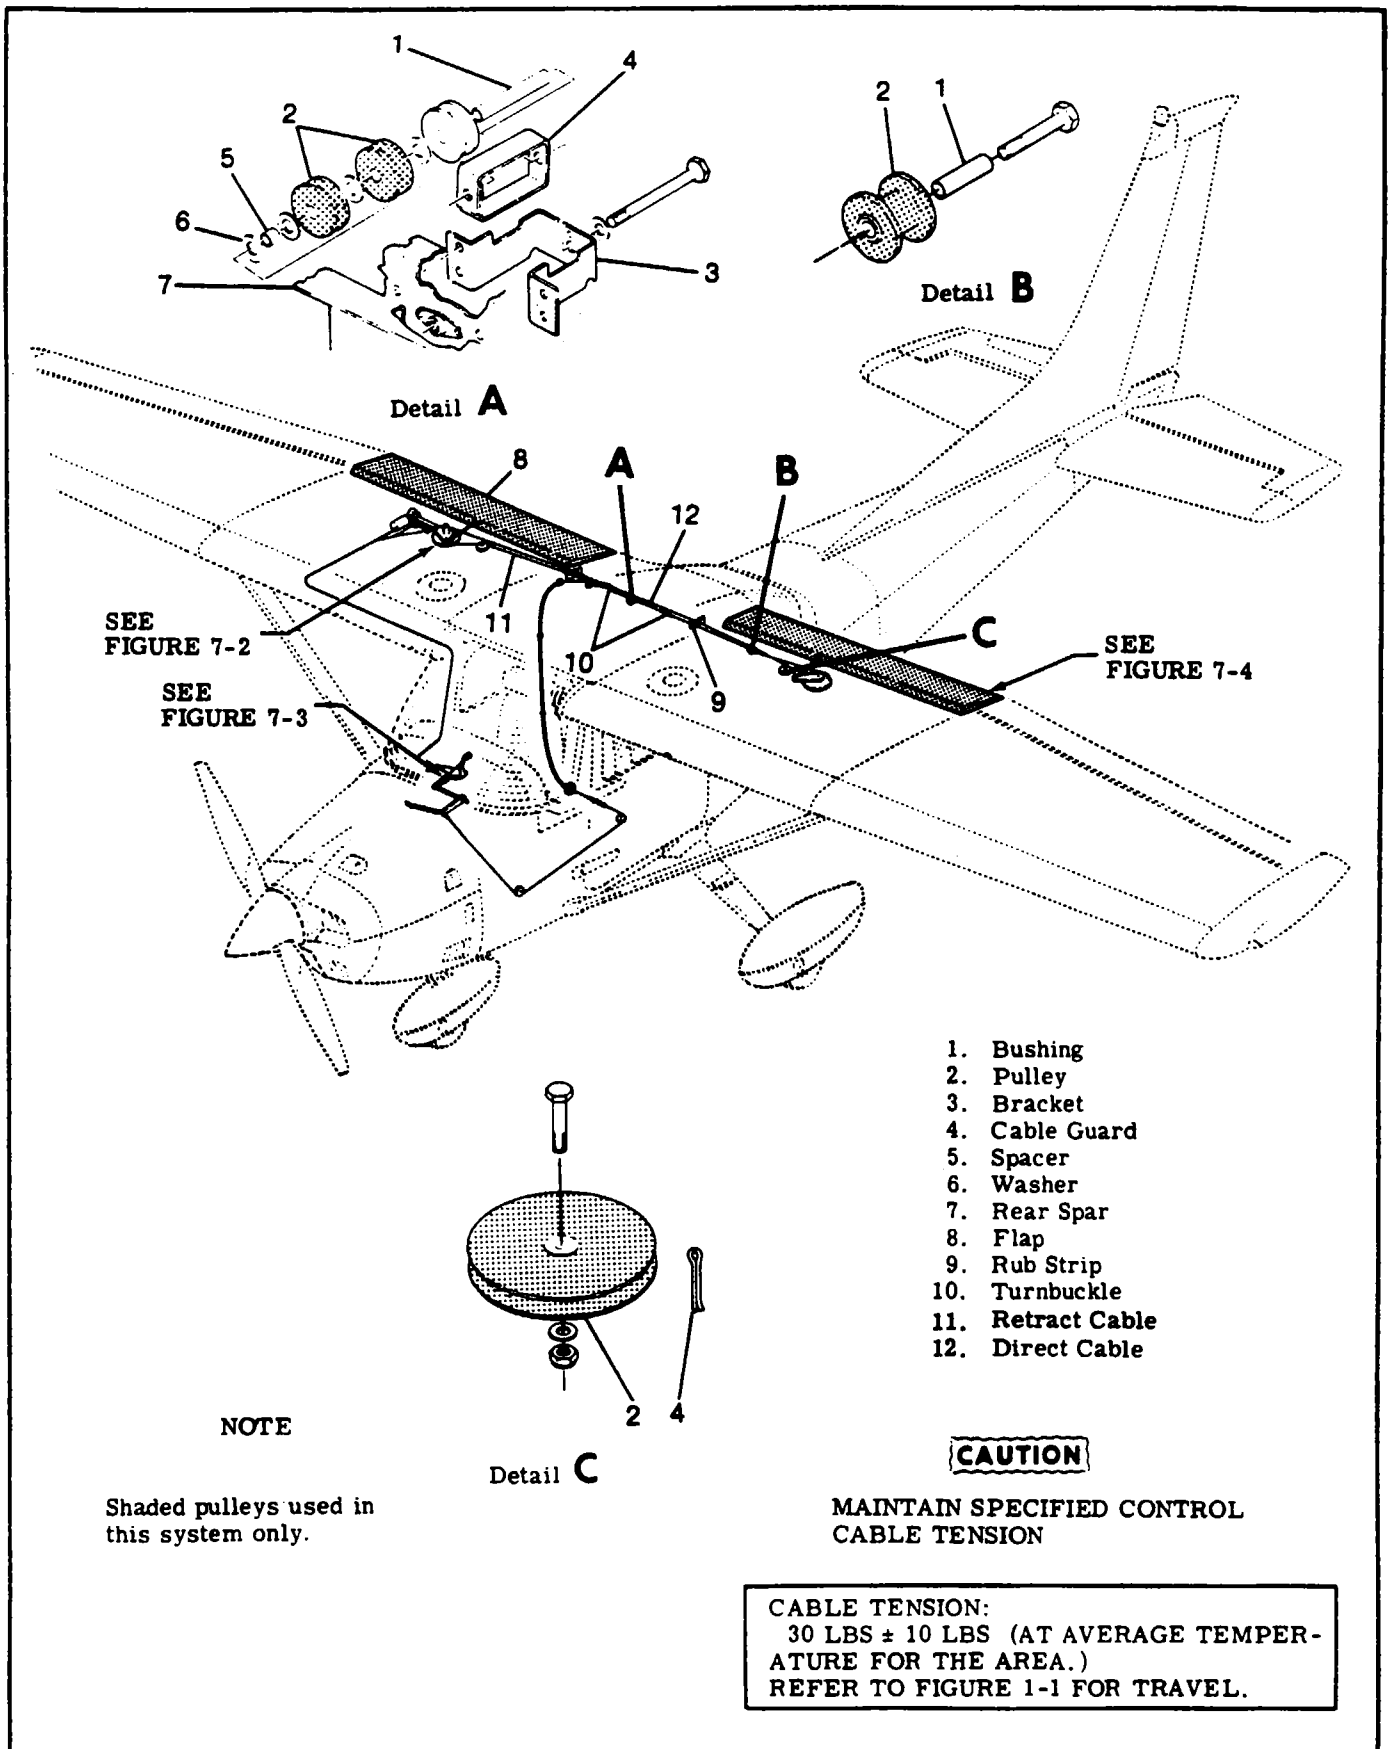

Figure 7-1. Wing Flap Control System
7-1. WING FLAP CONTROL SYSTEM. (See figure 7-1.)
- a. Remove access plate adjacent to drive pulley (13) in right wing.
- b. Unzip or remove headliner as necessary for access to turnbuckles (index 4, figure 7-1), remove safety wire and loosen turnbuckles.
- c. Remove bolt (19) securing flap push-pull rod (14) to drive pulley (13) and lower RIGHT flap gently.
- d. Remove bolt (20) securing actuating tube (5) to drive pulley (13) and lower LEFT flap gently. Retain bushing.
- e. Remove cable locks (12) securing control cables to drive pulley (13). Tag cables for reference on reinstallation.
- f. Remove bolt (11) attaching drive pulley (13) to wing structure.
7-16. CABLES AND PULLEYS. (See figure 7-1.)
- Unzip or remove headliner as necessary for access to turnbuckles (index 10, figure 7-1).
- Disconnect push-pull rods (14) at drive pulleys (13) in both wings and lower RIGHT flap gently.
- Disconnect actuating tube (5) from drive pulley (13).
Temporarily connect cables at turnbuckles (index 10, figure 7-1) and test flaps by hand to ensure both flaps extend and retract together. If they will not, the cables are in-